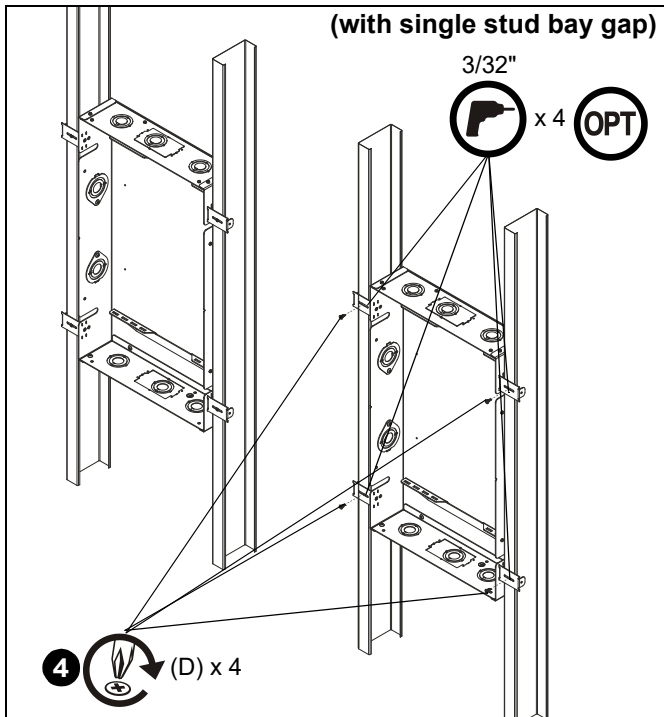

Figure 5
- If installing with a gap, repeat Steps 2-3 for second box (A) and to secure to studs. (See Figure 5)